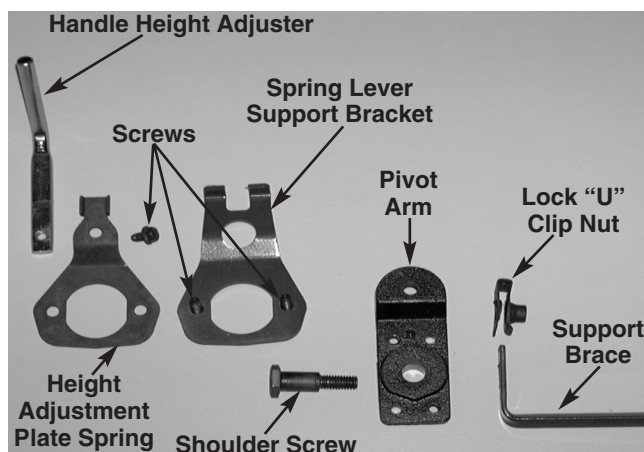

FIGURE 2.
3. Remove the shoulder screws securing the pivot arms and height bracket adjusters (not shown) to the front support brace using a 3/8" socket. See figure 2.